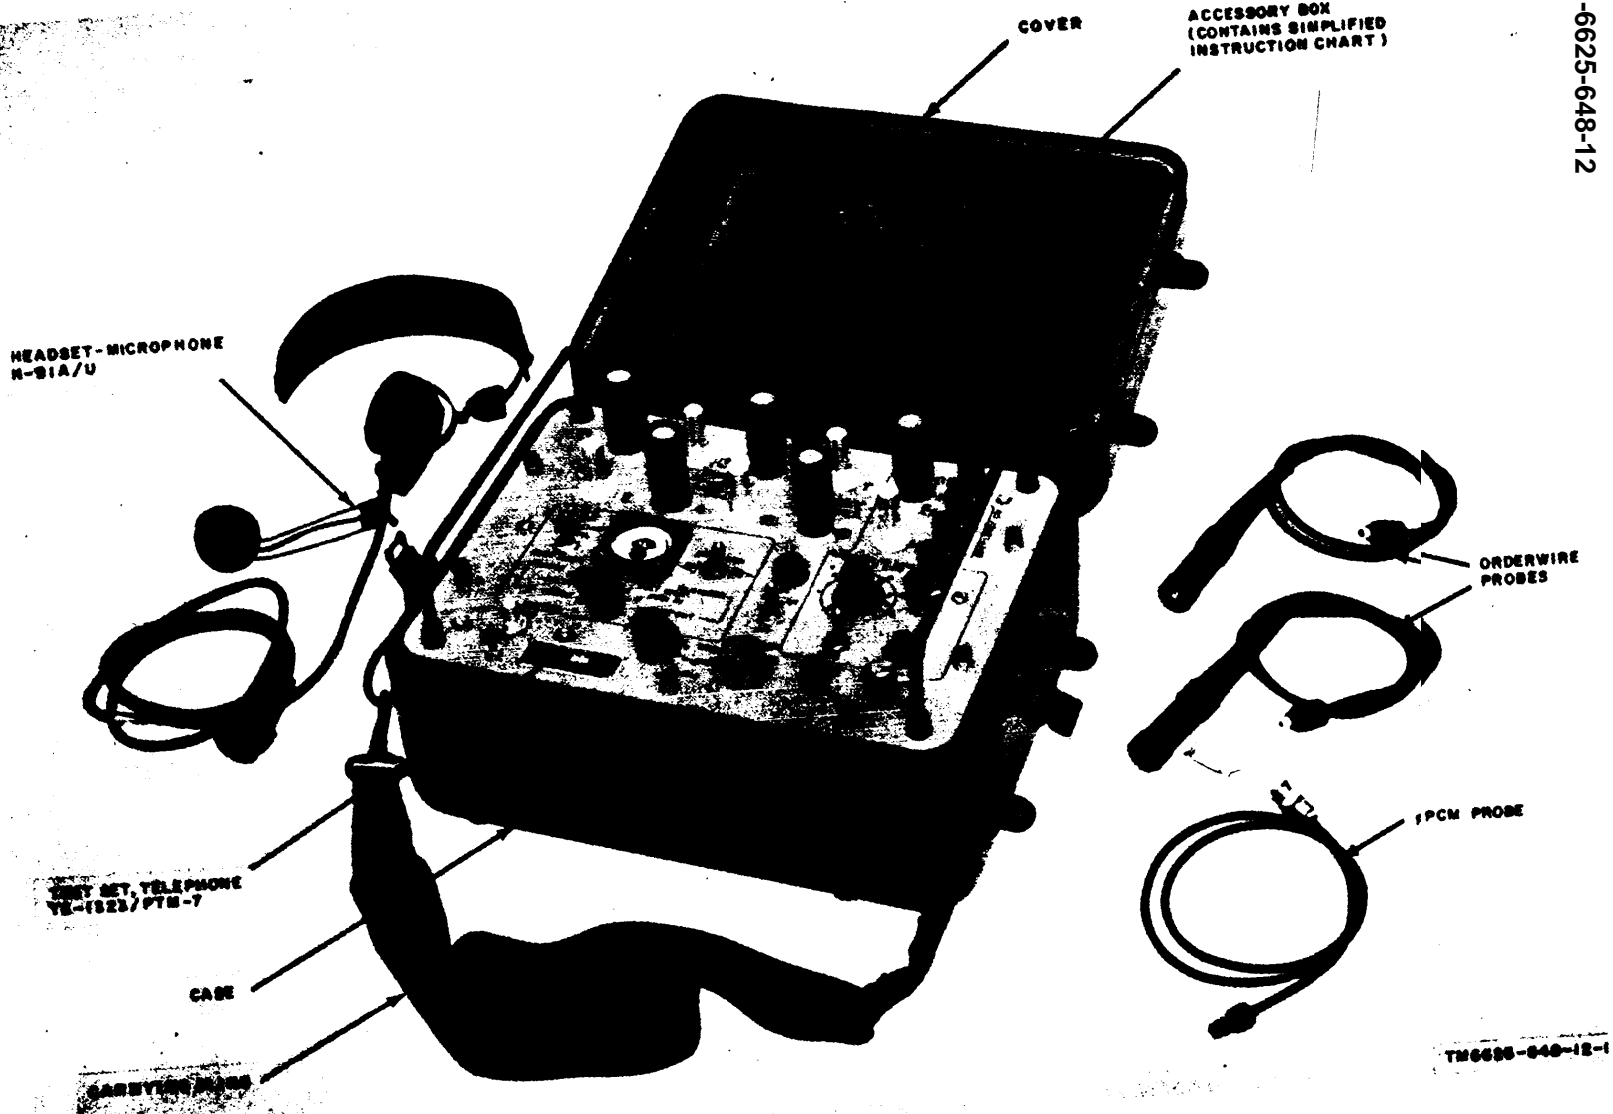

Figure 1-1. Test Set, Telephone AN/PTM-7.
This manual describes Test Set, Telephone AN/PTM-7 (fig. 1-1). It includes instructions for installation, operation, and organizational maintenance.
The AN/PTM-7 (fig. 1-1) can locate faults in a pulse-code modulation (pcm) cable link consisting of Restorers, pulse Forms TD-206/G and Cable, Special Purpose, Electrical CX-4245/G. The AN/PTM-7 also provides facilities for order-wire communication with attended stations.
a. The AN/PTM-7 (fig. 1-1) is a transistorized, battery-operated hand-portable test equipment containing facilities for testing the CX-4245/G and the TD-206/G. Test Set, Telephone TS-1323/PTM-7, the major component of the AN/PTM-7, is enclosed in an aluminum case. When the cover of the case is in place, the TS-1323/PTM-7 is watertight and floatable. When the cover is removed for operation, the chassis remains rainproof.